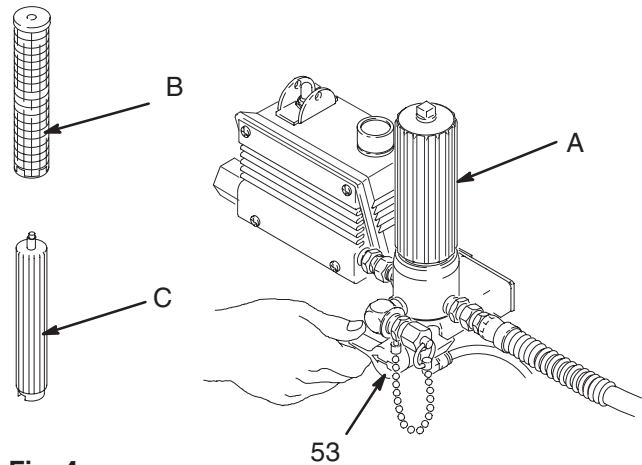

Fig. 4
4. Unlock the trigger safety. Hold a metal part of the gun firmly to the side of a grounded metal pail, and trigger the gun to relieve the pressure. See Fig. 4, A.
2. Remove the filter bowl (A) and screen (B); see instruction manual 307-273, supplied. Install the bowl and support (C), without the screen, to flush. Clean the screen separately. See Fig. 4.
3. Close the pressure drain valve (53).